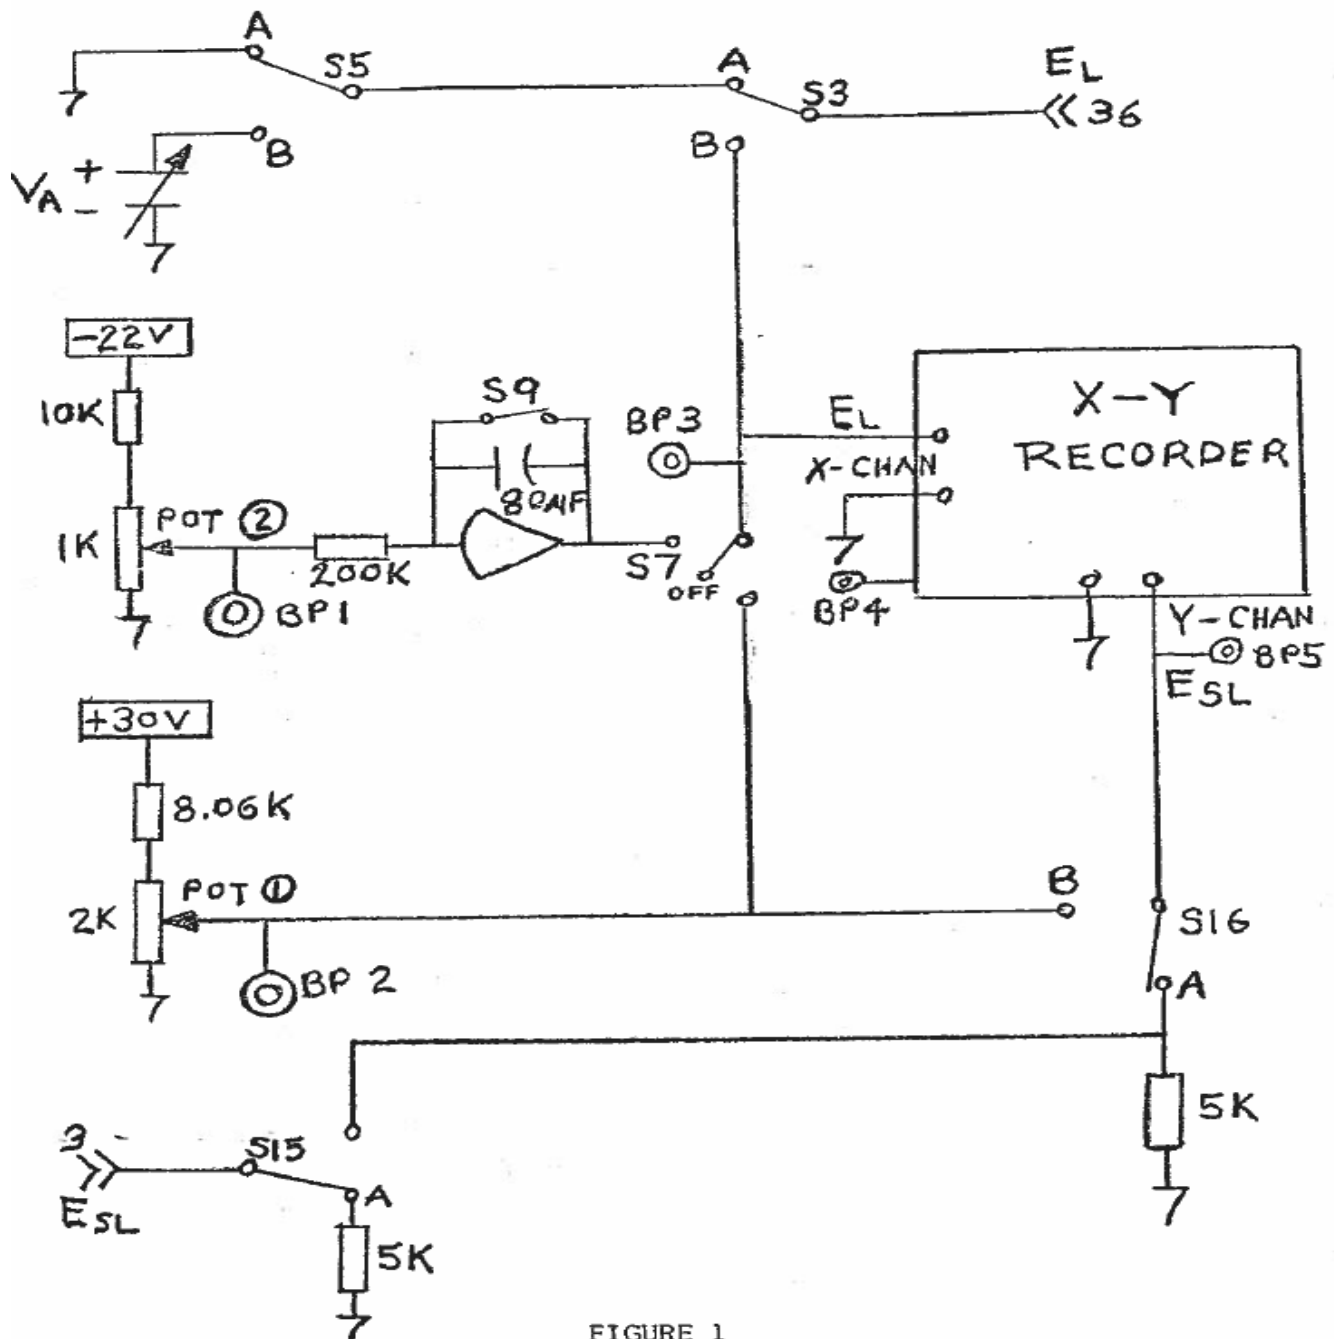

FIGURE 1
**7.1.1** Figure 1 shows the test set up which can be used, along with the VPU data sheets, to carry out the following adjustment procedures.
## 9.2 Test Setup for Final Test Figure 1